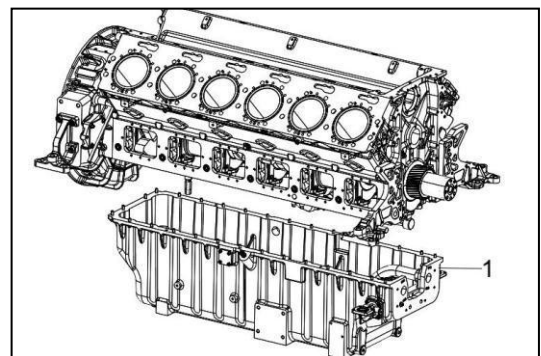

Figure 146
4. Install the oil pan on the engine block (Figure 146, 1).